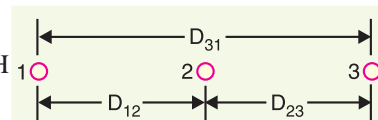

Fig. 9.13
**Solution.** Fig. 9.13 shows the arrangement of the conductors of the 3-phase line. The conductor radius  $r = 2.5/2 = 1.25$  cm.